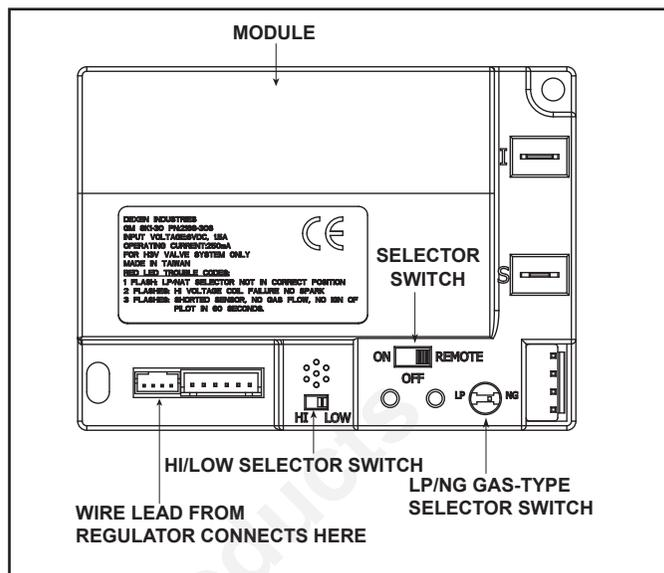

Figure 3.6 Control Module
1. The control module has an ON/OFF/REMOTE selector switch that must be set. See Figure 3.6.
2. If using a wired wall switch with the module in REMOTE mode, the flame output can be adjusted with the HI/LO selector switch on the module. See Figure 3.6. Note that the flame HI/LO selector switch will become inactive once a remote control (RC300AU) is programmed to the control module. Note that the control module will always ignite the fireplace on HI and remain so for the initial 10 seconds of operation. If the HI/LO is switched to the LO position, the flame output will automatically drop to the lowest setting after the flame has been established for 10 seconds. After this 10 second period, the flame can be adjusted from HI to LO with the switch.
- Locate the module selector switch. (See Figure 3.6).
- Wait five (5) minutes to allow possible accumulated gas to clear.
- Verify the ON/OFF/REMOTE switch is in the REMOTE position. Green LED light will blink three times and the control module will beep once 5 seconds later when ready. See Figure 3.6.